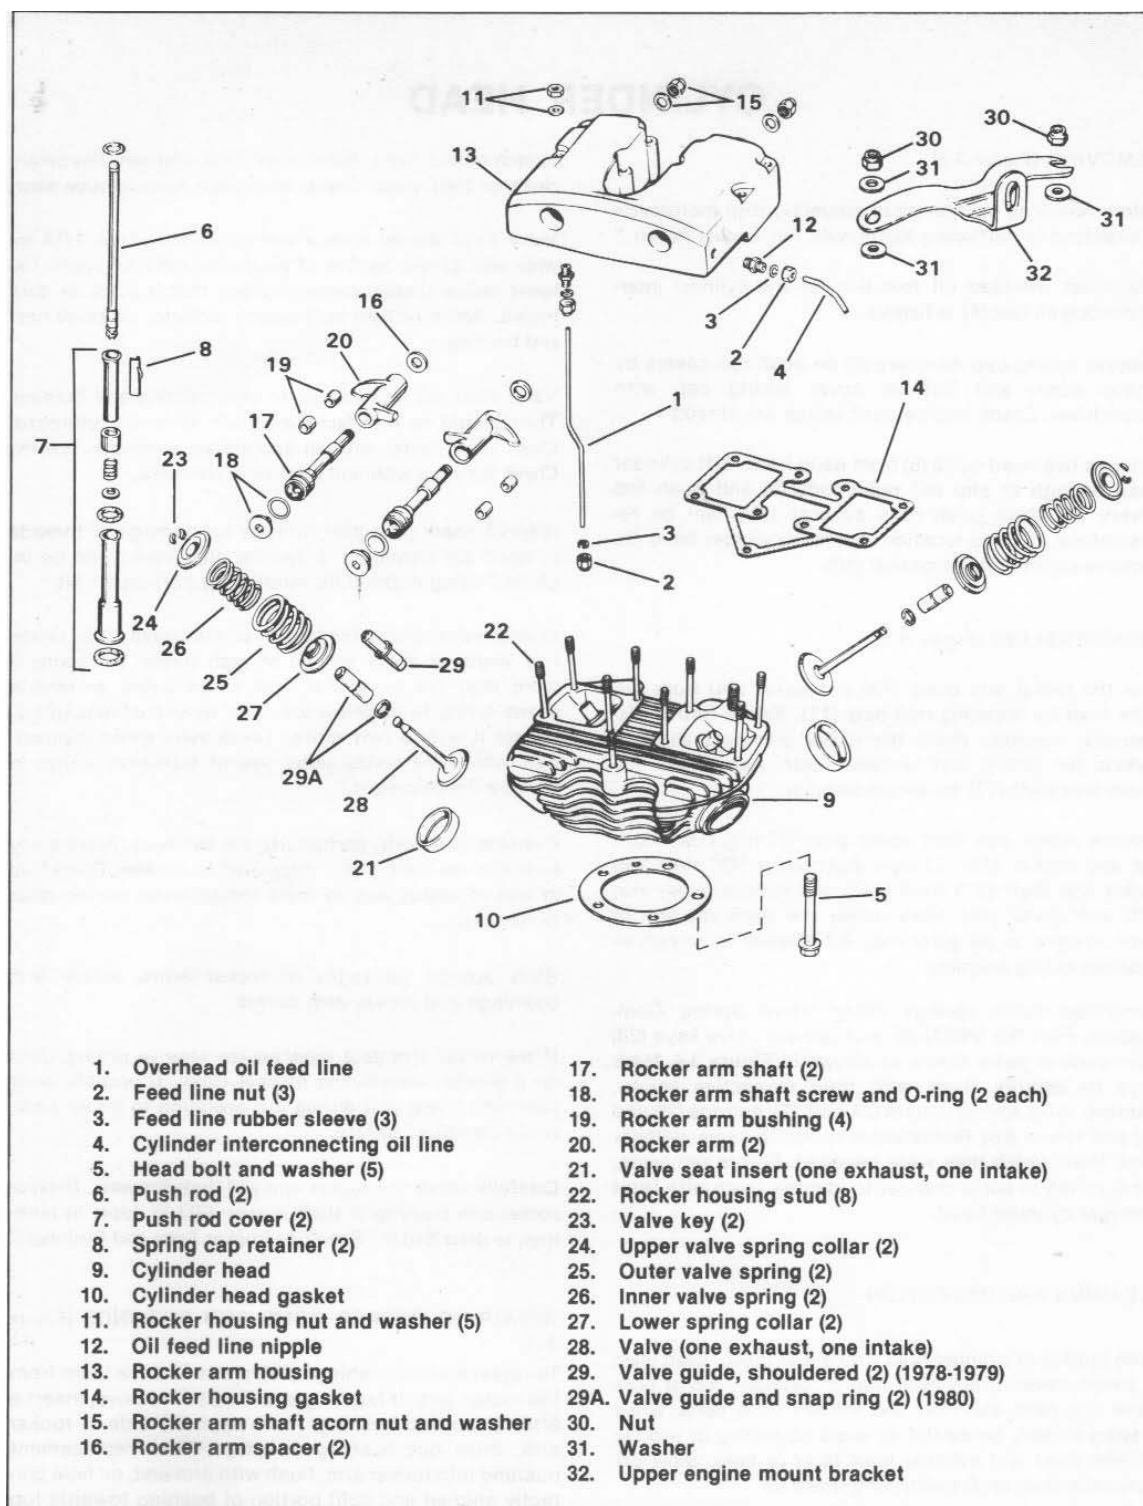

Figure 3-3. Cylinder Head — Exploded View
REMOVING (Figure 3-3)
DISASSEMBLING (Figure 3-3)
REPAIRING ROCKER ARMS AND BUSHINGS (Figure 3-3)
ASSEMBLING CYLINDER HEAD (Figure 3-3)
3. Install front cylinder push rods and covers (6, 7 Figure 3-3). Always use new push rod cover gaskets or O-rings when re-assembling. Clean sealing surfaces with greaseless solvent. Greasy joint surfaces will make it difficult to remove gaskets or O-rings during next disassembly.